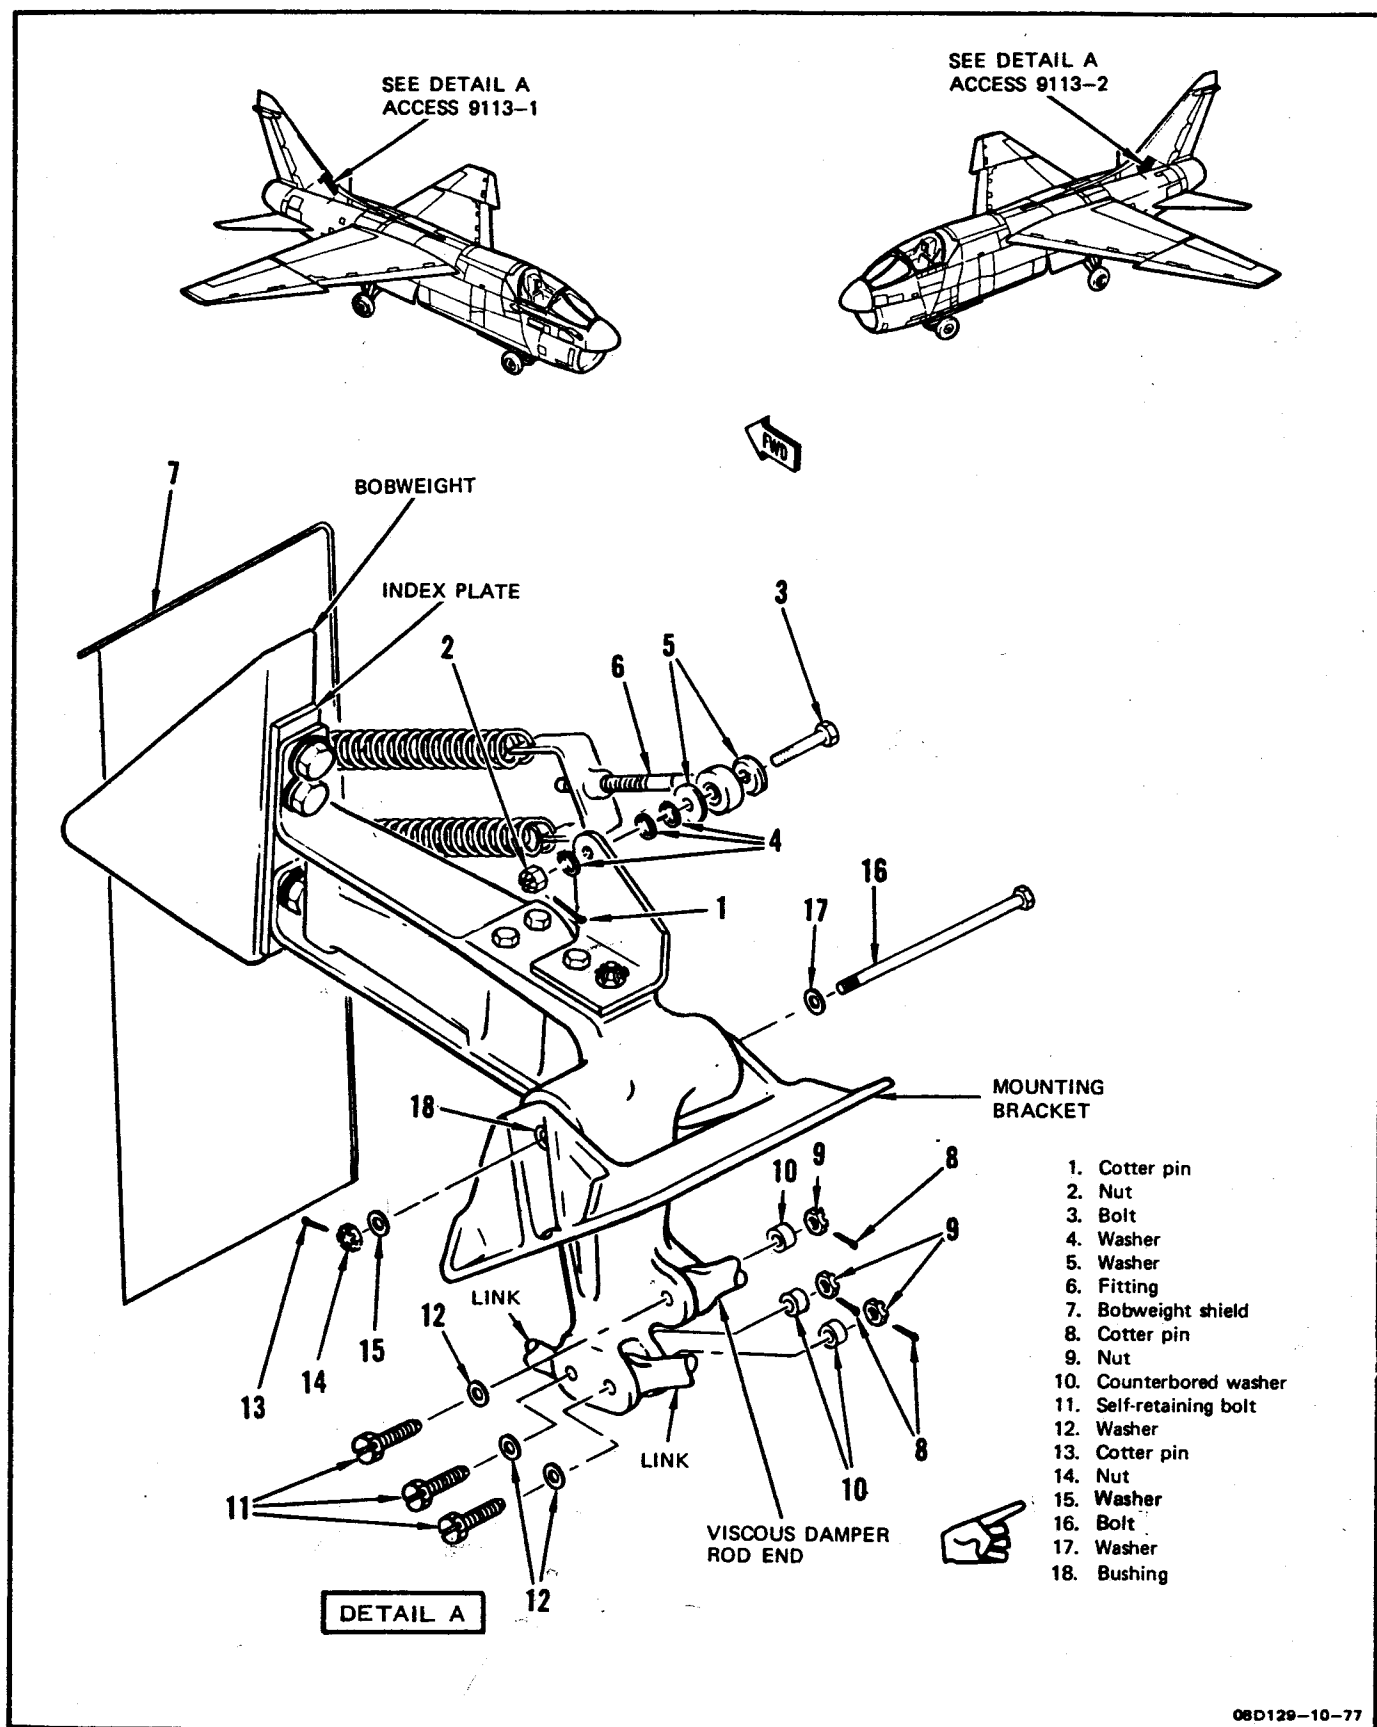

Figure 6-11. Aft Bobweight Assembly Removal and Installation
**6-68. REMOVAL. (See figure 6-11.)**
- c. Remove cotter pin (1), nut (2), bolt (3), three washers (4), and two washers (5) attaching UHT aft linkage preload spring fitting (6) to arm.
6-69. INSTALLATION. (See figure 6-11.)